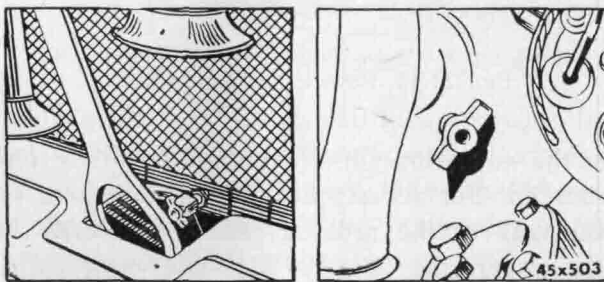

FIG. 14-12. Locations of drain cocks in radiator and engine block on one car. (Plymouth Division of Chrysler Corporation)
1. *Cooling-system cleaning procedure.* Completely drain the system by opening drain cocks (Fig. 14-12). Add cleaning compound and fill system with water. Run engine on fast idle for [384]
Removing a radiator core is a relatively simple job although there is a considerable amount of work involved. The procedure varies somewhat from car to car but, in general, is as follows. First, drain the engine and radiator by opening the drain cocks in the radiator and engine block. Figure 14-12 shows the locations of these two cocks on one car. Locations vary somewhat from one make to another. With the cooling system drained, detach the upper and lower radiator hoses. Remove any support bolts, horns, wiring harness, and so forth, that might interfere with core removal. With these parts out of the way and the core loose, lift it straight up and off the car.
2. *Plymouth.* To remove the water pump, drain the cooling system by turning the drain cocks (Fig. 14-12), disconnect hose, remove fan belt, and take out attaching screws so pump can be lifted off.